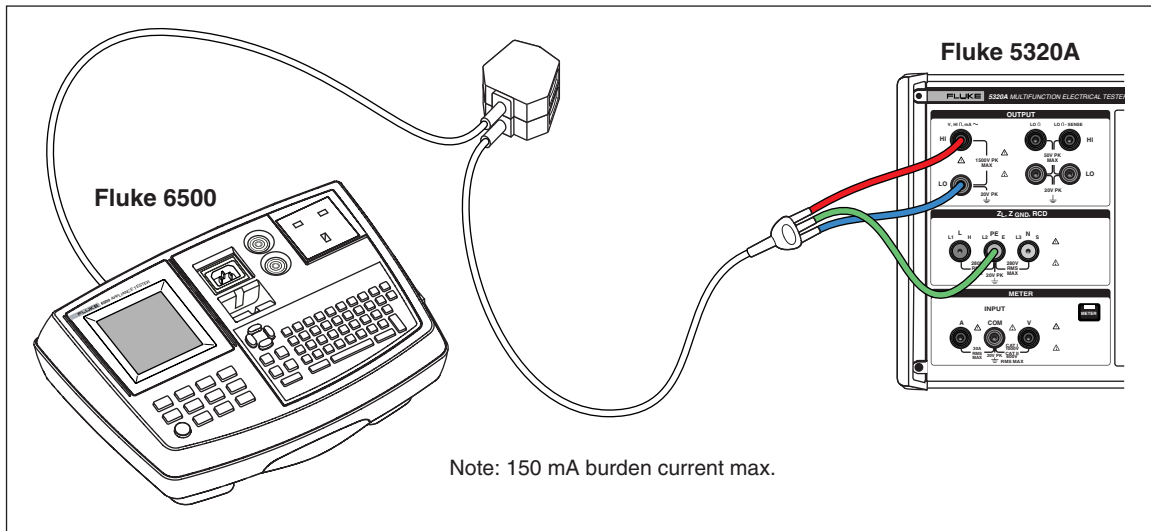

Figure 7-19. Voltage Calibration on Line Powered Appliance Testers
1. Using Figures 7-19, connect the UUT to the Calibrator's Meter A, COM and V terminals. Also make a protected earth (ground) connection between the UUT and the Calibrator's PE terminal.